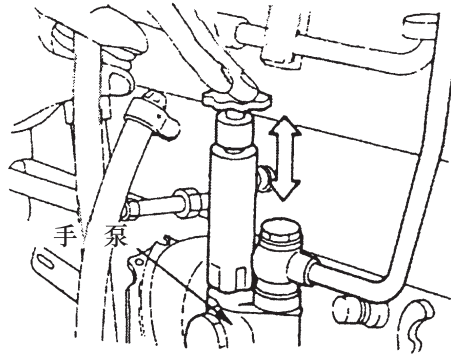

Fig. 1-19
1.3.10 Air exhaust of oil injection pump (See Fig. 1-19)